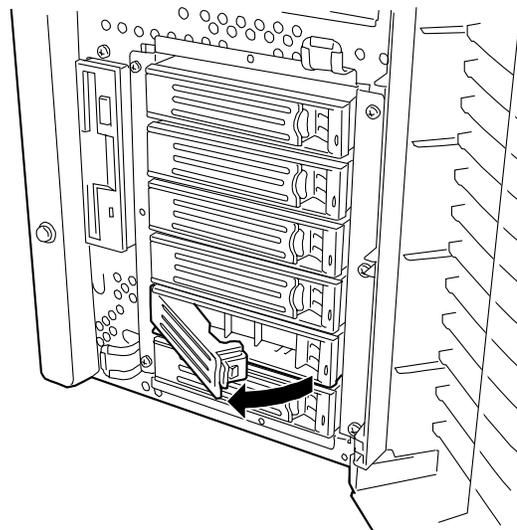

Figure 4-24. Opening the Hard Disk Drive Carrier
4. Grasp the drive carrier handle and pull the handle toward you to disengage the drive connector from the backplane. See Figure 4-24.